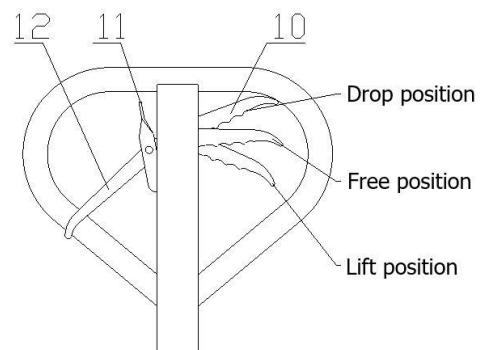

Fig. 5
4.1 After the truck is assembled, try to rock the hand grip and operate different positions of the control handle knob (10) to examine the lifting, free position and dropping and check that whether the different positions are normal or not. See fig. 5.
- 5.3 See fig. 5, when the control handle knob (10) is placed on the lift position, the truck will be in a state of lift. At this time, if you rock the hand grip, the truck will lift.
- 5.4 See fig. 5, when the control handle knob (10) is placed on the free position, the truck will travel. At this time, if you rock the hand grip, the truck will neither lift nor drop. You can use the truck to move the cargo.
- 5.5 See fig. 5, when the control handle knob (10) is placed on the drop position, truck forks will drop automatically. Be careful when lowering the load! See also item 13.2.